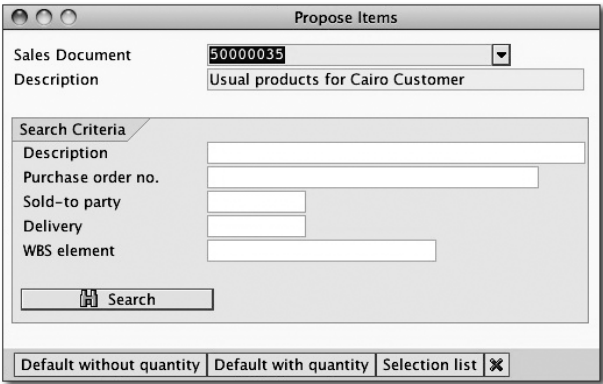

Figure 3.15 Propose Item Selection Window
4. Finally, you'll be prompted to confirm the proposal number. Here, you can select between proposing items with or without quantity. For this example, select the DEFAULT WITH QUANTITY button, as shown in Figure 3.15.